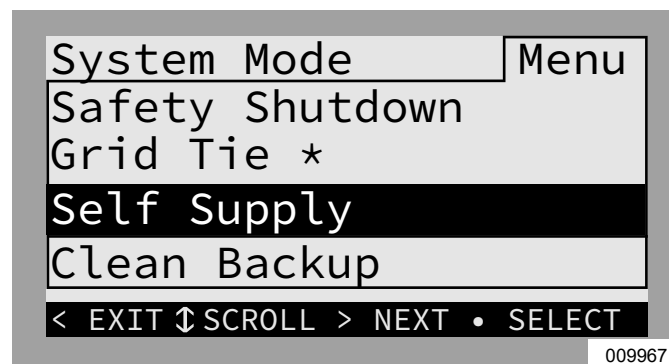

Figure 6-4. Selecting System Modes (2 of 4)
3. See Figure 6-4. Use the up and down arrows to highlight the desired mode and press the center button to select.